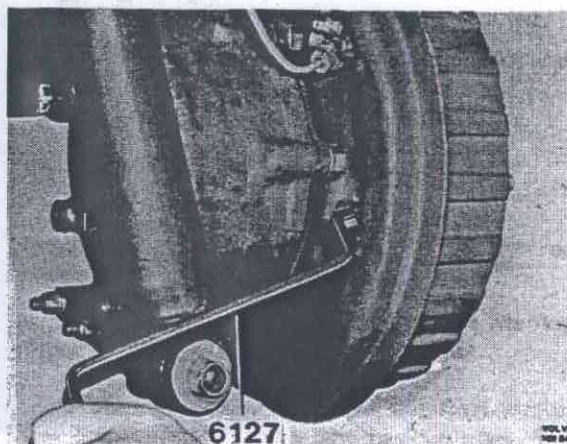

Fig. 51-3. Adjusting the wheel brake unit
2. Turn the adjuster pin clockwise until the brake drum can just be rotated, see Fig. 51-3. For the rear wheels use spanner 6127 and for the front wheels an 11/16" spanner.